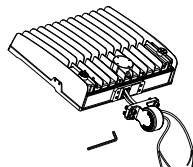

Figure 2
- Step 2: Put input wire of the light across the bracket. (Figure 2)